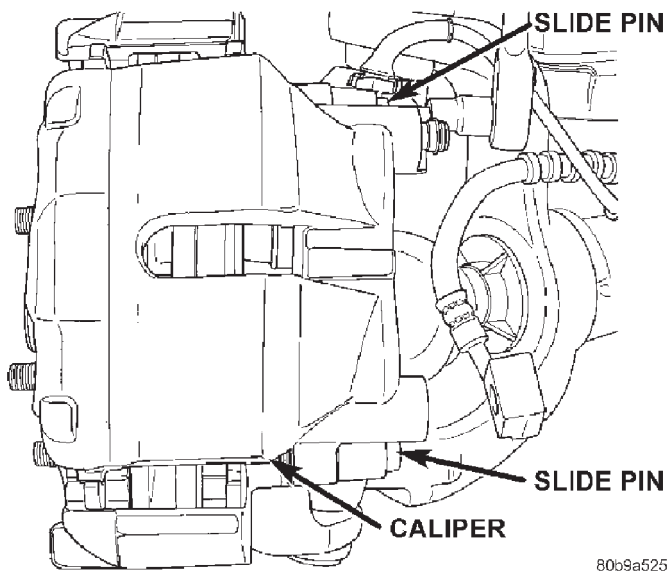

Fig. 29 Caliper Slide Pins
- (6) Remove the caliper slide pin bushing caps and remove the slide pins (Fig. 29).
- (7) Remove caliper from the anchor.